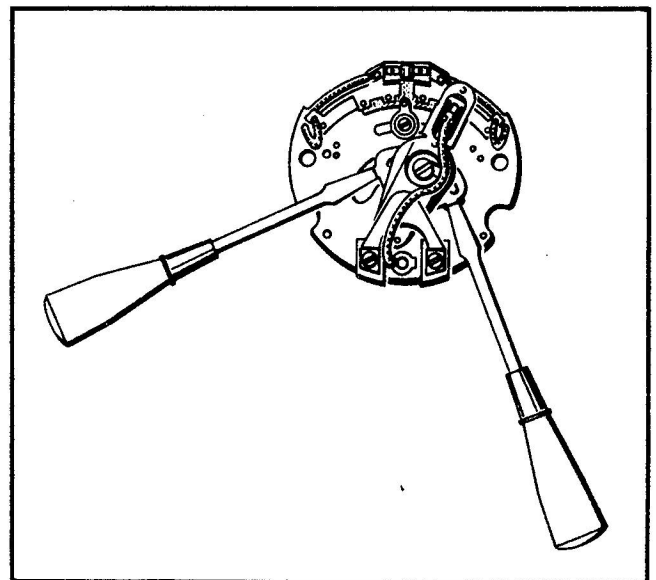

Figure 3-5. Adjusting Differential Arms on Contractor Assembly
d. If fork and contact assembly (8) does not show the required slight movement, or shows excessive movement indicating engagement of differential arm projections prior to float reaching either "N" or "F", the differential arms must be adjusted. Perform the following steps "e" and "f". If fork and contact assembly operation is satisfactory continue setting procedure beginning at step "h".
e. Place float on "N" plate and loosen screw (23) slightly to permit adjustment of assembly (8). Using two screw drivers (see figure 3-5) move the differential arms (19 and 20) to change distance between two arm projections. Increase distance between projections if assembly (8) indicated excessive movement in step "c", above. Decrease distance if assembly did not give required slight movement when float was raised and lowered between "F" and "N".
shown in figure 3-5 to prevent movement of differential arms use thumb to position arm assembly (8) to center of base assembly (43).
g. Tighten screw (23) and recheck setting of arms (19 and 20) in accordance with step "c" above.
j. Loosen screw (26) and move contact plate assembly (25) until lift point (10) of assembly (9) is resting on roller (38) of plate assembly (25). Continue moving